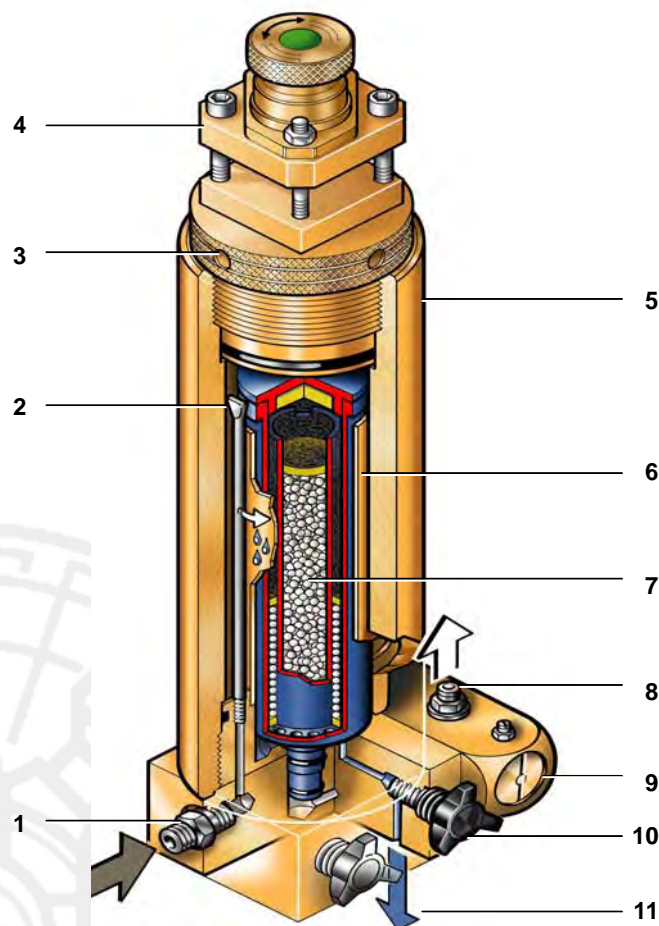

Abb. 29 Filter system P21
The air leaving the final stage is cooled in the after-cooler to approx. 10 - 15 °C (18 - 27 °F) above ambient temperature and then enters filter system **P21** with **TRIPLEX** longlife cartridge (Abb. 29).
- Remove filter head (3, Abb. 29).